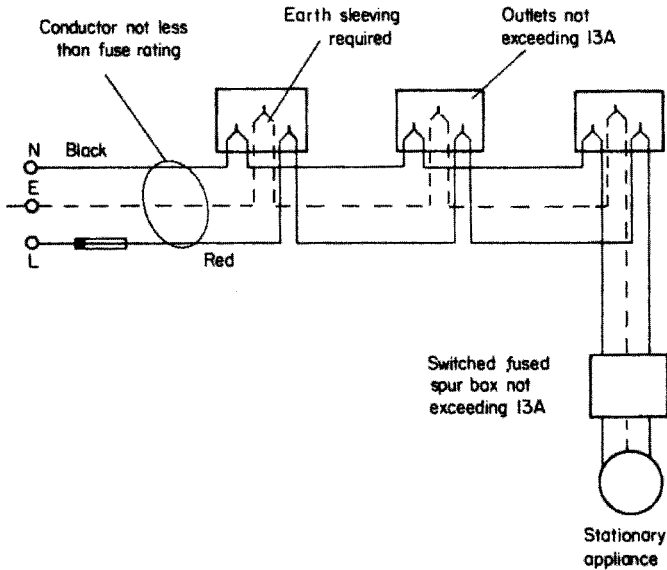

Fig. 15.7 Radial circuit (PVC insulated)
Radial circuits are arranged in the same way as item 1, above, in lighting layouts, in that each socket outlet is supplied via the previous one (Fig. 15.7).